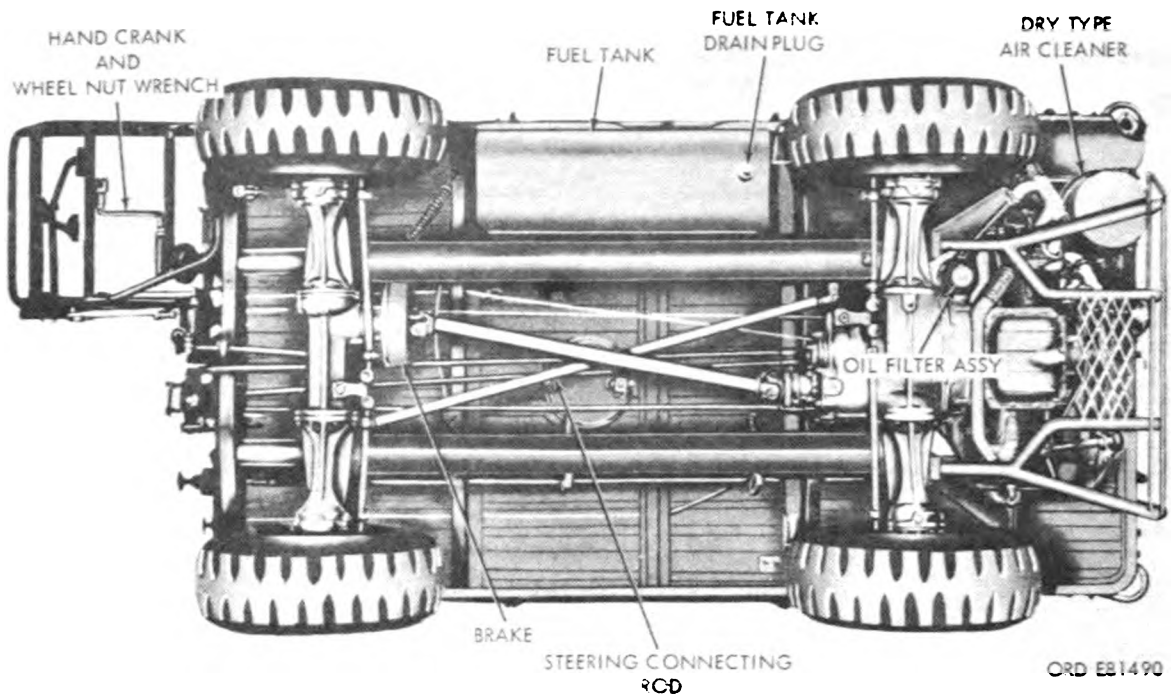

Figure 1-5. 1/2 ton, 4 x 4, platform utility truck—bottom view (M274A3 only).
- (2) A floor of heavy gage expanded screen is welded to the bottom of the operator's footrest. The M274A3 does not have this screen.
- (3) The operator's seat can be adjusted to two positions and provides a publications stowage bag. The M274A3 has only one seat back position.
- (4) The wheel nut wrench is stowed in the publications bag. The combination wheel nut wrench and handcrank for the M274A3 is stowed in the operator's footrest (fig. 1-5). (Handcrank portion no longer required.)
- (1) On the M274A3 vehicle, a single brake (fig. 1-5) of the external expanding